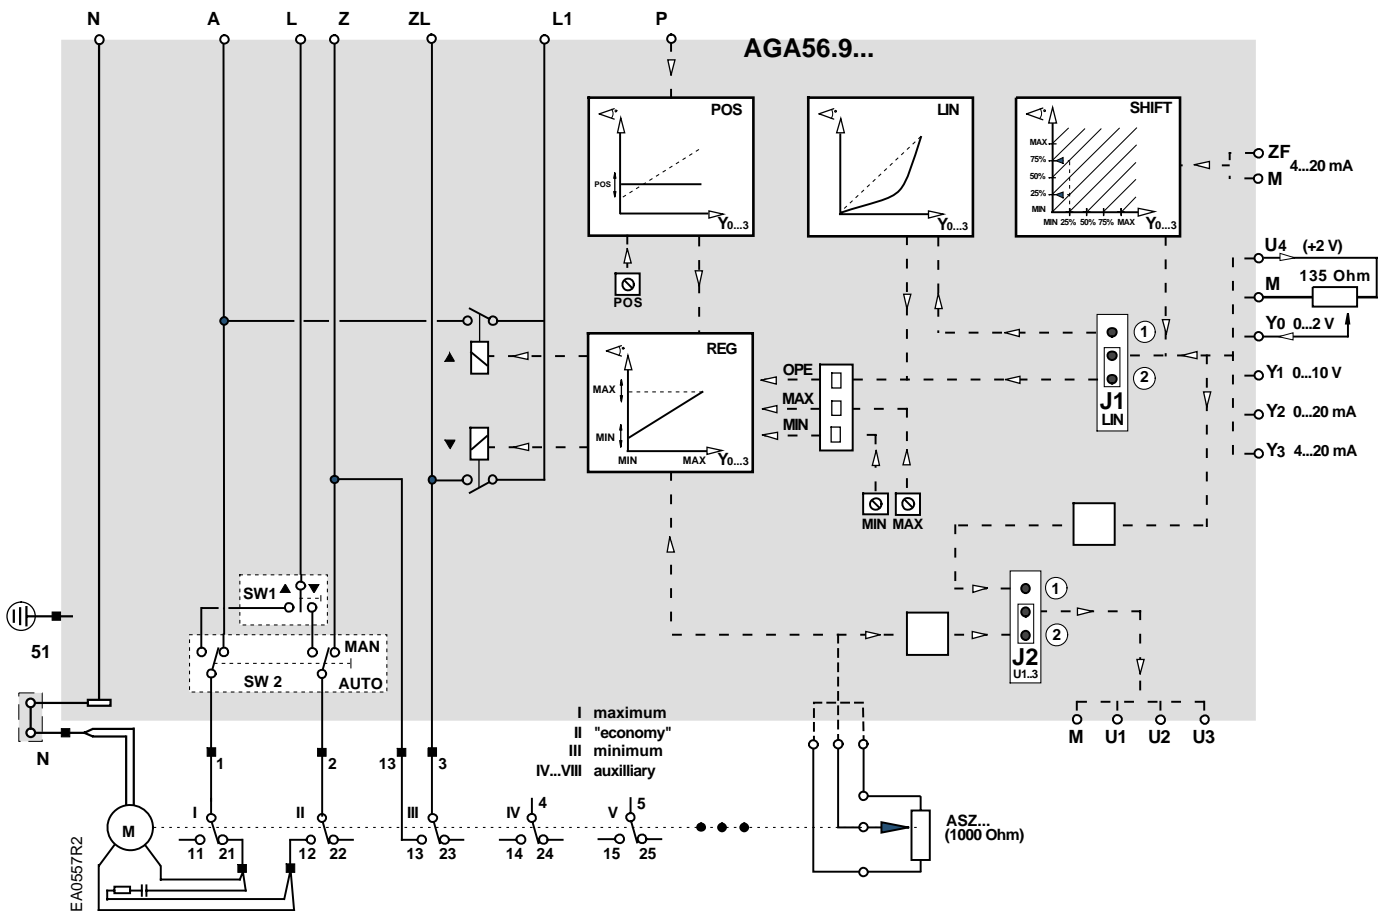

Figure 11. Basic Functional Diagram of AGA56.9...
- See *Figures 11 and 12.* 2. Connect neutral to terminal N.